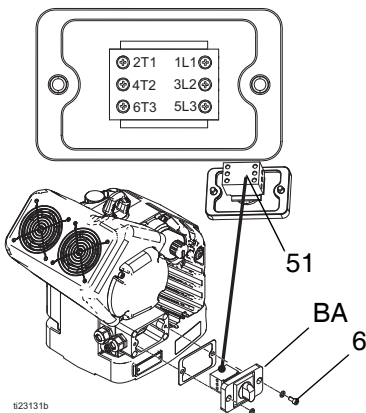

FIG. 25: Junction Box Cover
10. Install the junction box cover (BA) and tighten the two screws (6). See FIG. 25, page 27.
11. Install the wires into the disconnect switch (51) and tighten the wire screws.